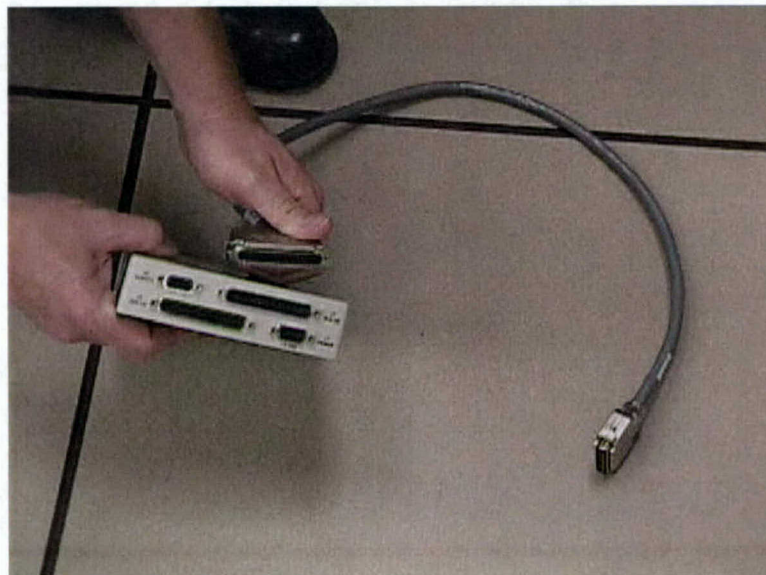

Figure 31. Cable 4
- d. Cable 4 contains a 25-pin male connector and 37-pin female connector (Figure 31). The 37-pin female connector plugs directly into the KIV Black Port on the rear of the KIV. The 25-pin male connector plugs directly into the rear port of the ADTRAN into port DTE #2. Using a screwdriver, secure all cables.